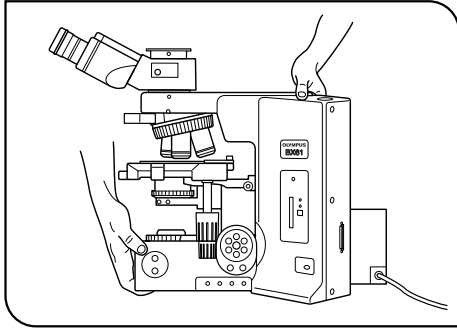

Fig. 3
3. When moving the microscope, remove the modules that may drop including the specimen from the microscope in advance, hold it by the hand hook on the rear and the base as shown on the left (Fig. 3) and carry carefully (Weight: approx. 16 kg).